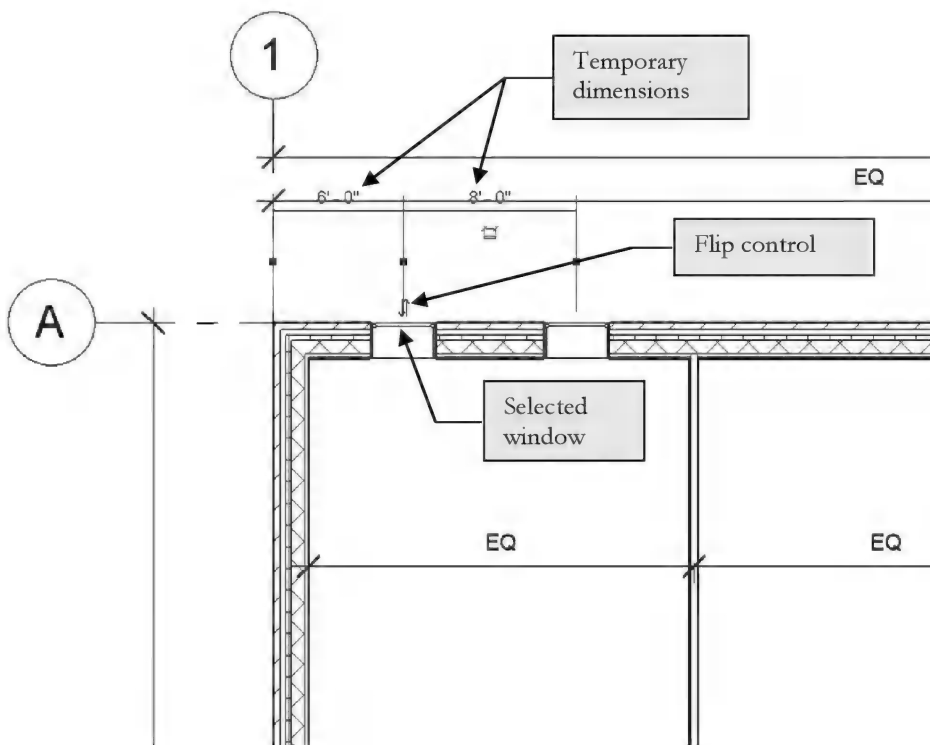

FIGURE 2-3.2 Adding windows – temporary dimensions still active
4. Move your cursor over a wall and place **two windows** as shown in **Figure 2-3.2**.
- a. Dimensions per Figure 2-3.2.